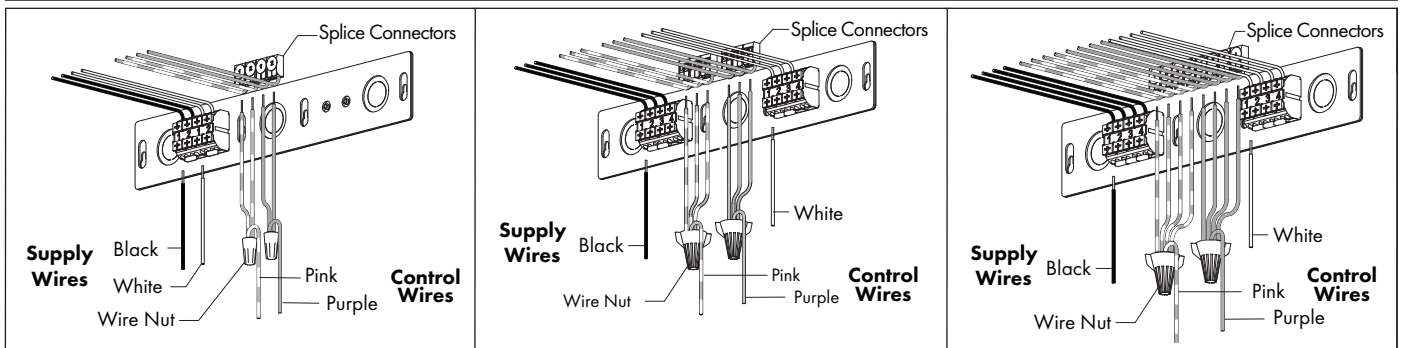

FIG 6.2 Attach Supply & Control Wires
2. Make wire connections noting individual lamp circuit numbers - FIG 6.2 & 6.3.